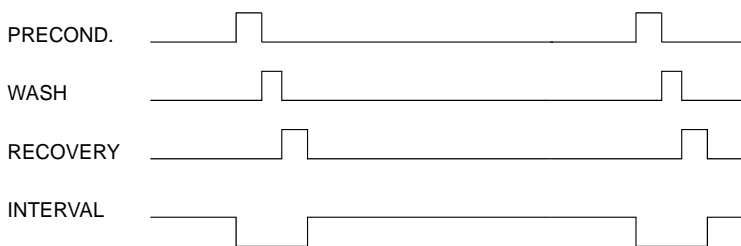
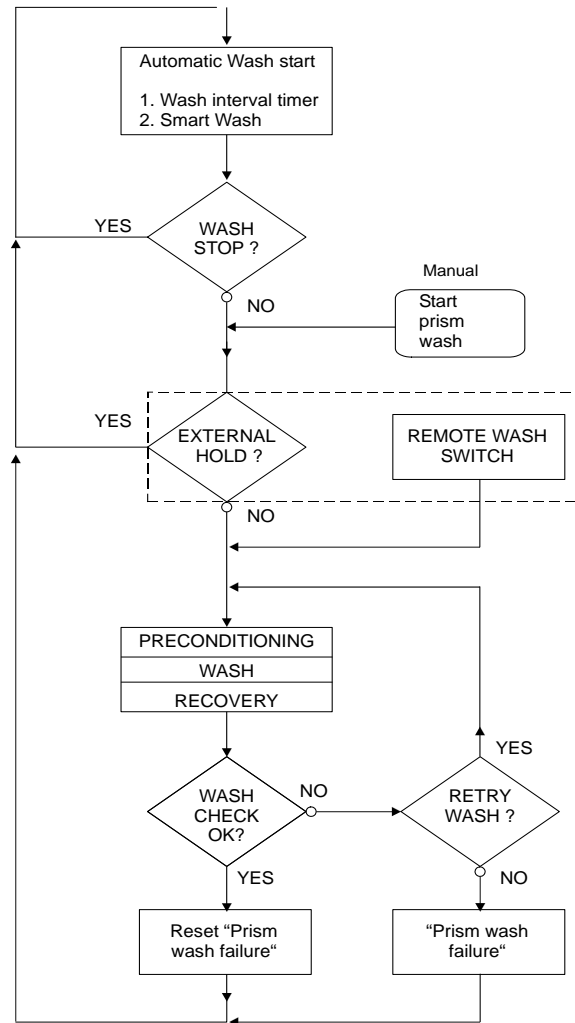

Figure 9.21 Prism wash sequence.
Figure 9.31 Wash decision logics.
6. Preconditioning: A preconditioning relay, Figure 9.21. (Not used for built-in relays).
7. Wash: A wash relay, Figure 9.21. (Not used for built-in relays).
- If the Relay unit is used as a wash timer, the time settings (Figure 9.21) are entered after the sequence Calibrate/Parameters/Prism wash:
1. Preconditioning time, s (10)
2. Wash time, s (3)
3. Recovery time, s (30)
4. Wash interval, min (20)
Figure 9.21 describes the standard prism wash sequence Preconditioning/Wash/Recovery/Interval. In some cases the wash routine should be modified to better fit the application. The Wash decision logics (Figure 9.31) of K-Patents refractometer covers a wide range of options.